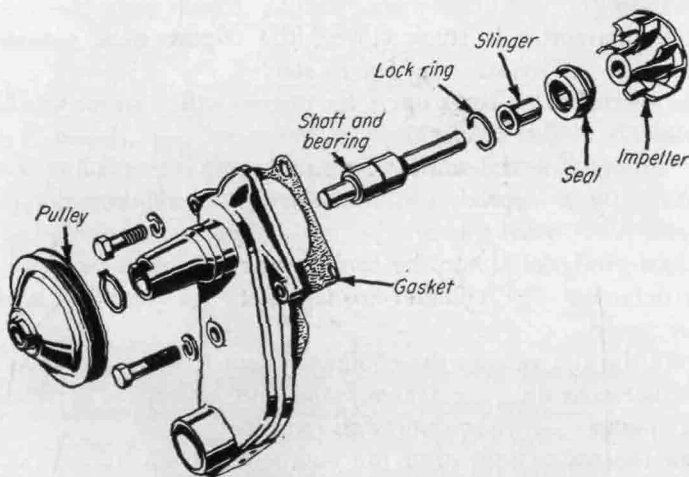

FIG. 14-22. Disassembled view of water pump. (Ford Motor Company)
3. *Ford.* To remove the water pump (Fig. 14-22), drain the cooling system, disconnect hose, take off fan belt, remove mounting bolts, and take off pump. In some cases, it may be necessary to